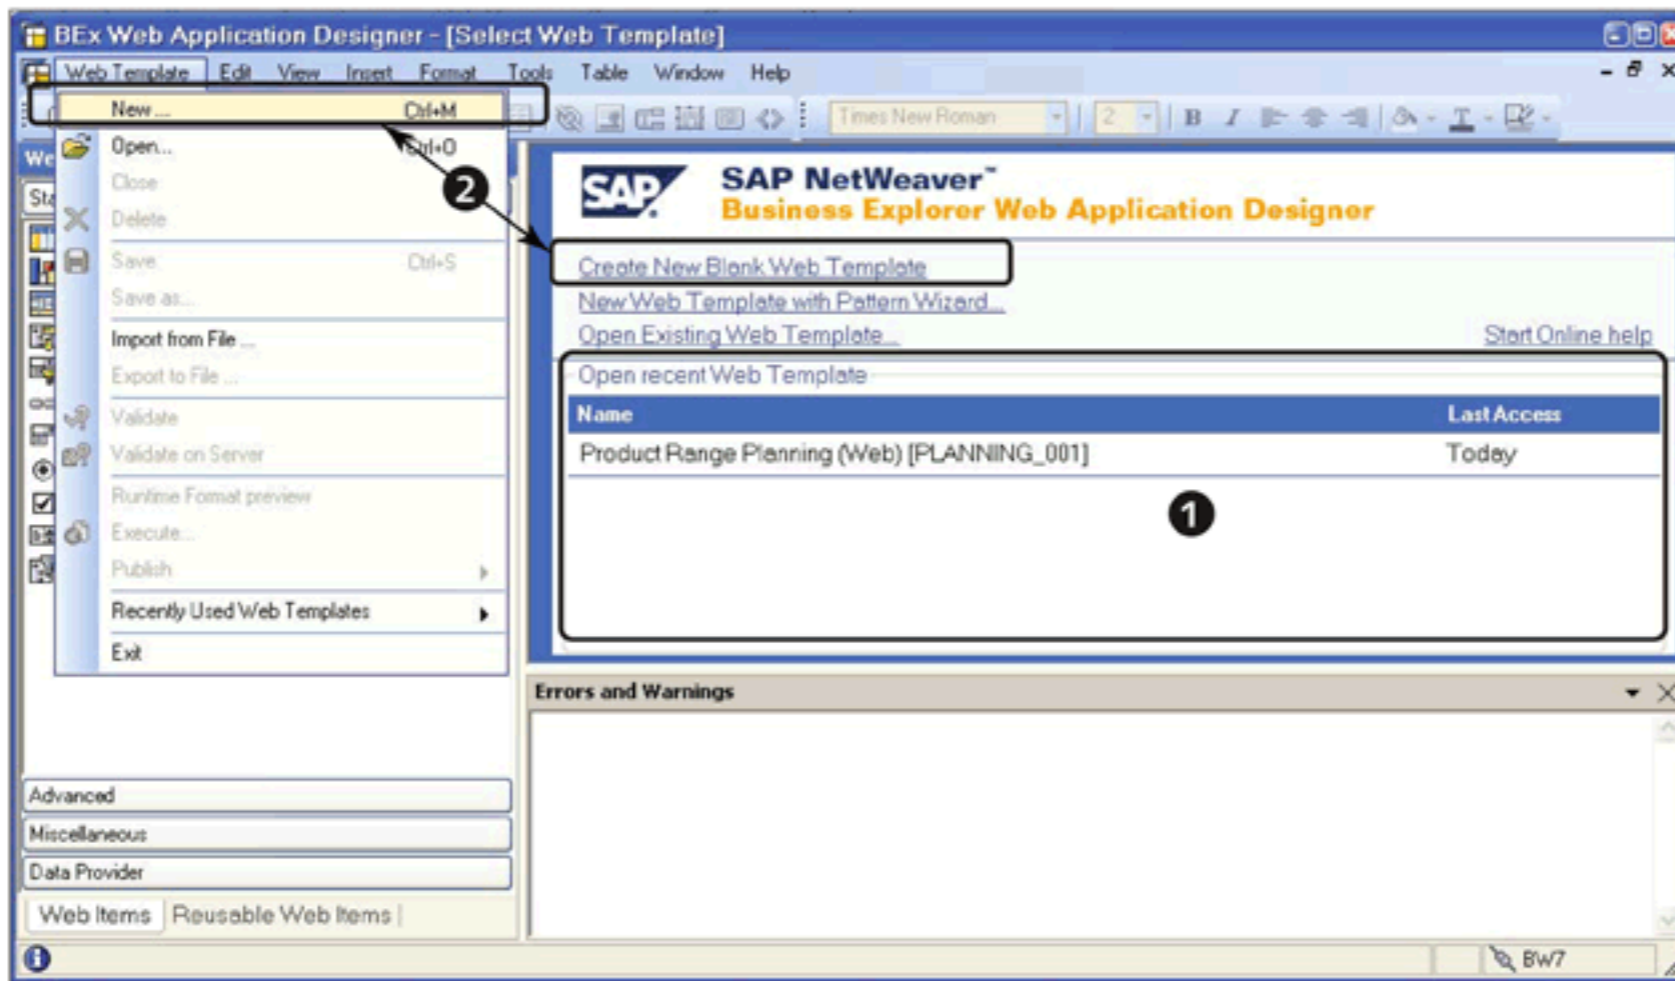

Figure 11.2 Create New Web Template
On the entry screen, you see options to **CREATE NEW WEB TEMPLATE** or to **OPEN EXISTING WEB TEMPLATE**. A list of recently accessed web templates is also displayed for quick access (see ❶ of Figure 11.2). To open a new web template, click on **CREATE NEW BLANK WEB TEMPLATE**, or use the menu path **WEB TEMPLATE • NEW** (❷).